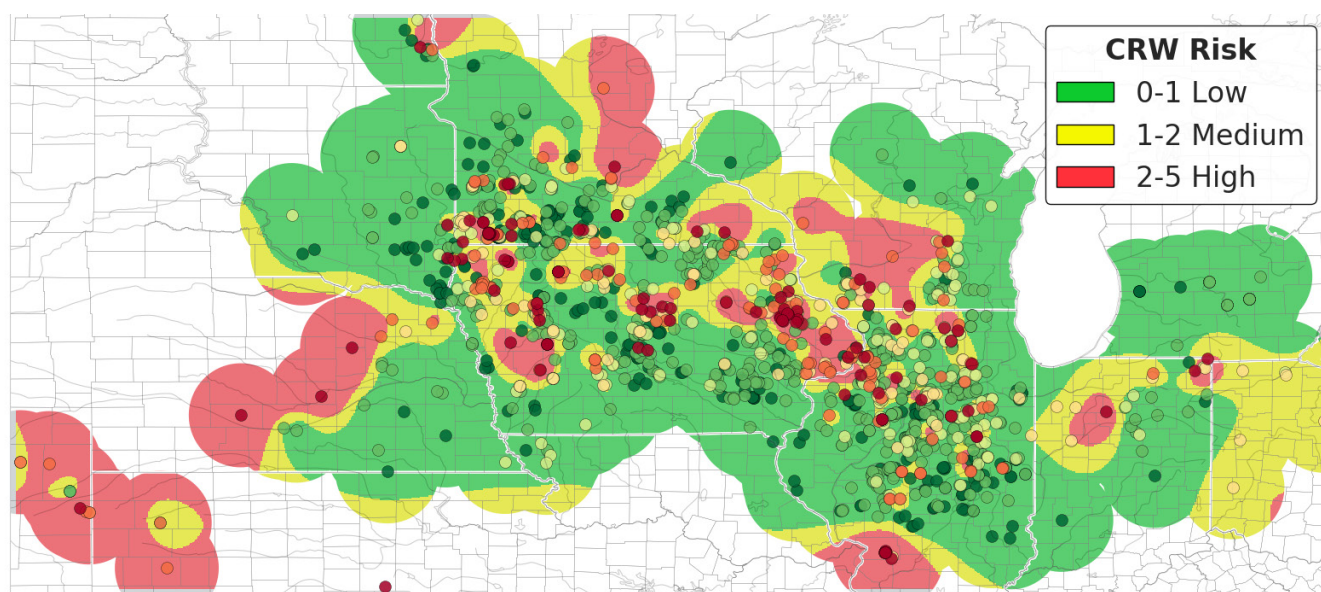

Figure 3. Estimated corn rootworm risk in 2021 using interpolated 2020 corn rootworm data from all fields sampled.
- On a broad scale, CRW populations, and consequently 2021 risk potential, are possibly elevated in corn fields in central and southwest NE, northeast CO, northwestern KS, west, central, and east central IA, southwest WI, northern IL, central and southern MN, and southeastern ND (Figure 3).